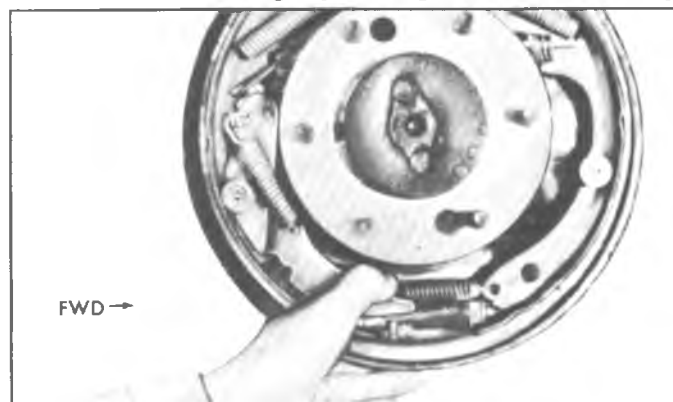

Fig. 50--Checking Actuating Lever
15. After completing installation, make certain the actuator lever functions easily by hand operating the self-adjusting feature (fig. 50).